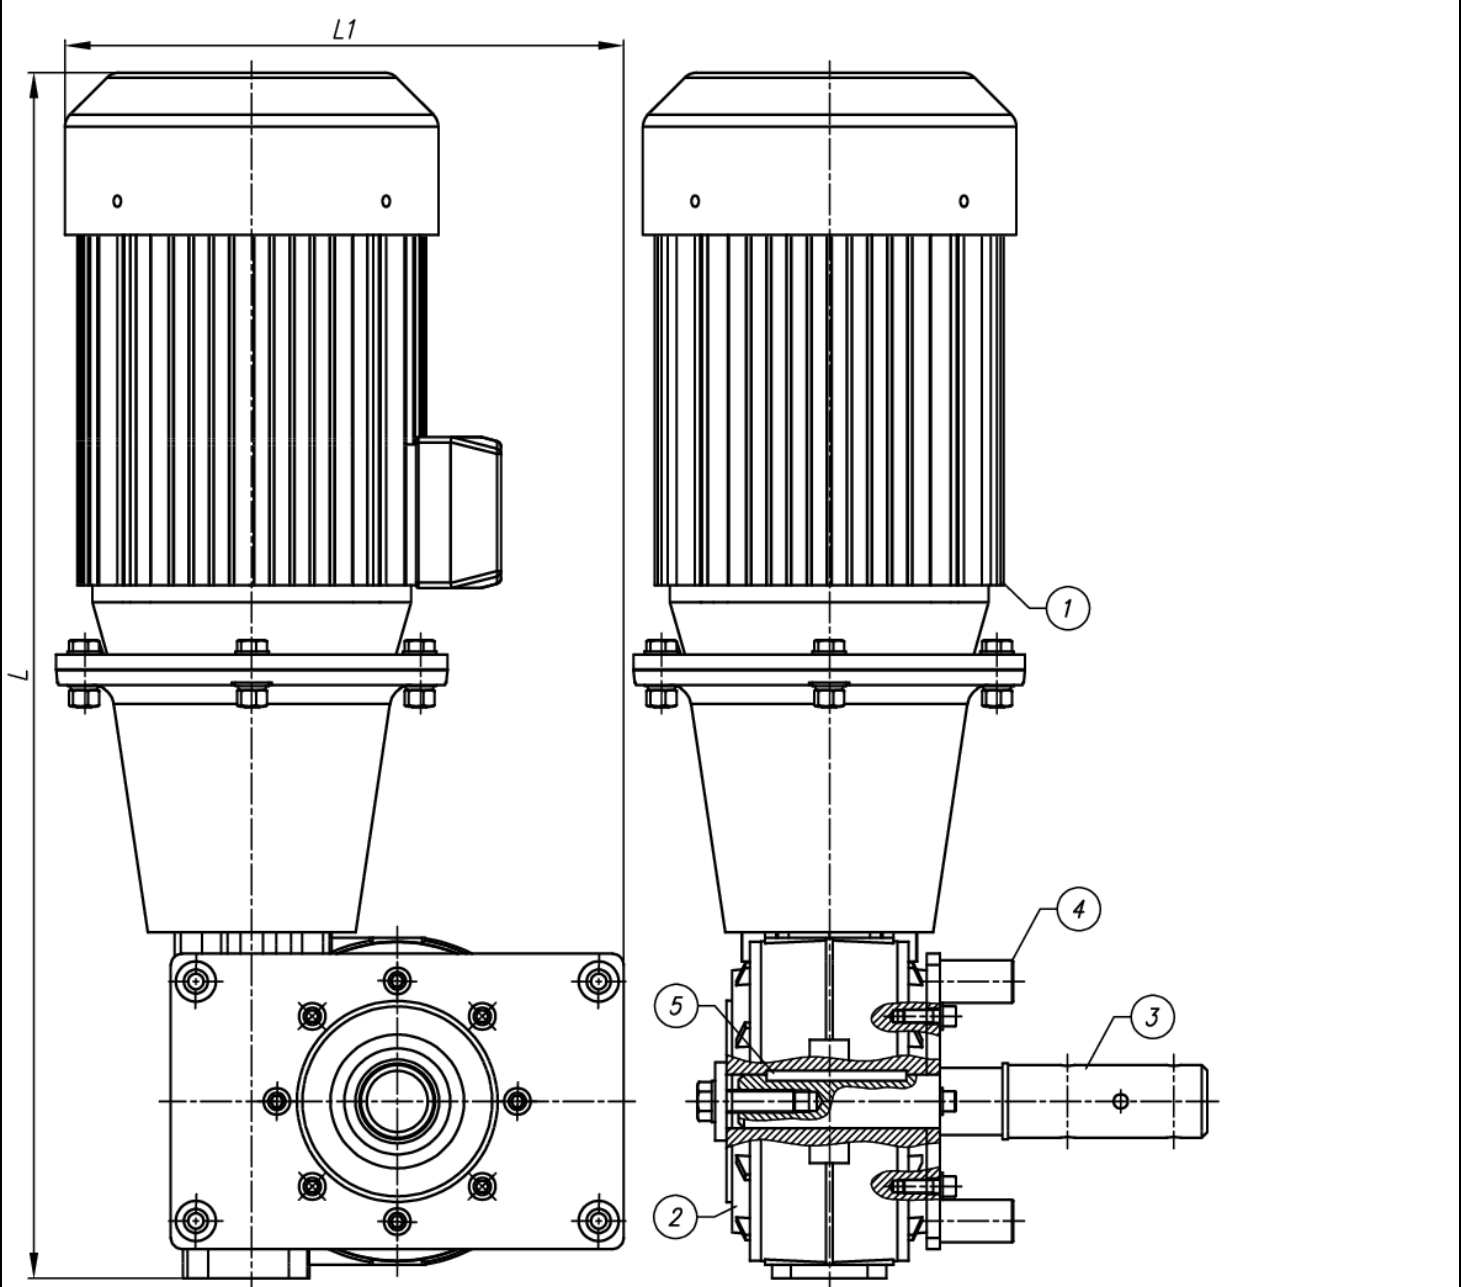
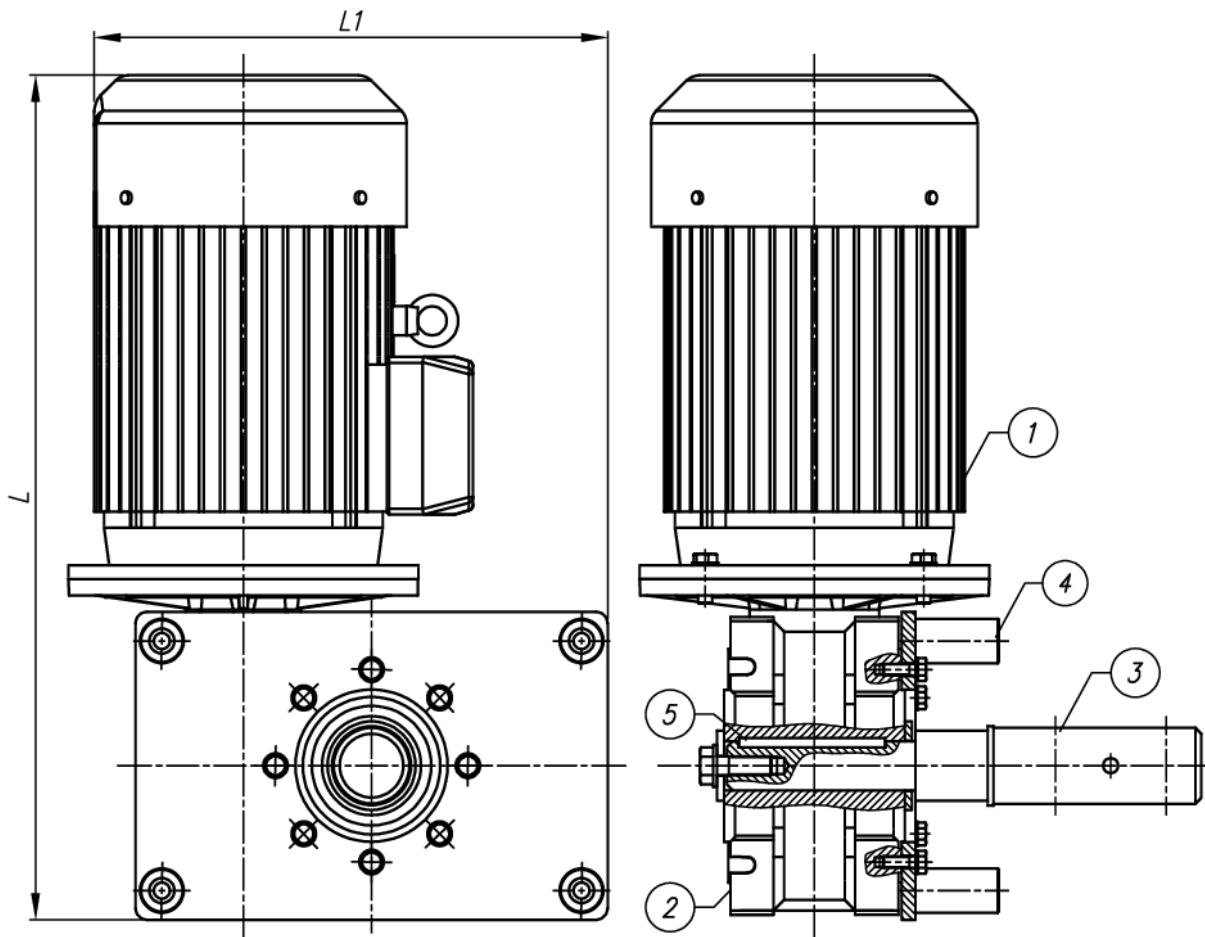

Figure 3. A drive of 18 kW and 15 kW (PS300-N18/200, PS300-N18/300, PS300-N15/200, and PS300-N15/300).
Figure 4. A drive of 11 kW and 7.5 kW (PS300-N11/200, PS300-N11/300, PS300-N7,5/200).
The drive system of the screw conveyor PS300 (Figure 3 and Figure 4) consists of a worm gear speed reducer (item 2), which receives drive from the electric motor (item 1). The reducer is mounted on a special adapter (item 4), facilitating installation of other modules of the PS300 conveyor system. The drive hub (item 3), mounted on the reducer via a key joint (item 5) transfers the drive power from the electric motor, via the reducer. The complete module also includes bolts, nuts and washers, which are necessary to install other PS300 system modules, as well as a nominal plate and electric equipment. In PS300-N18/200, PS300-N18/300, PS300-N15/200, and PS300-N15/300 drives, a worm gear speed reducer of the RS130 type, of a gear ratio $i = 7$ or $i = 10$ was installed. In PS300-N11/200, PS300-N11/300, and PS300-N7.5/200 drives, a worm gear speed reducer of the RT110 of a gear ratio $i=7$ or $i=10$ was installed.